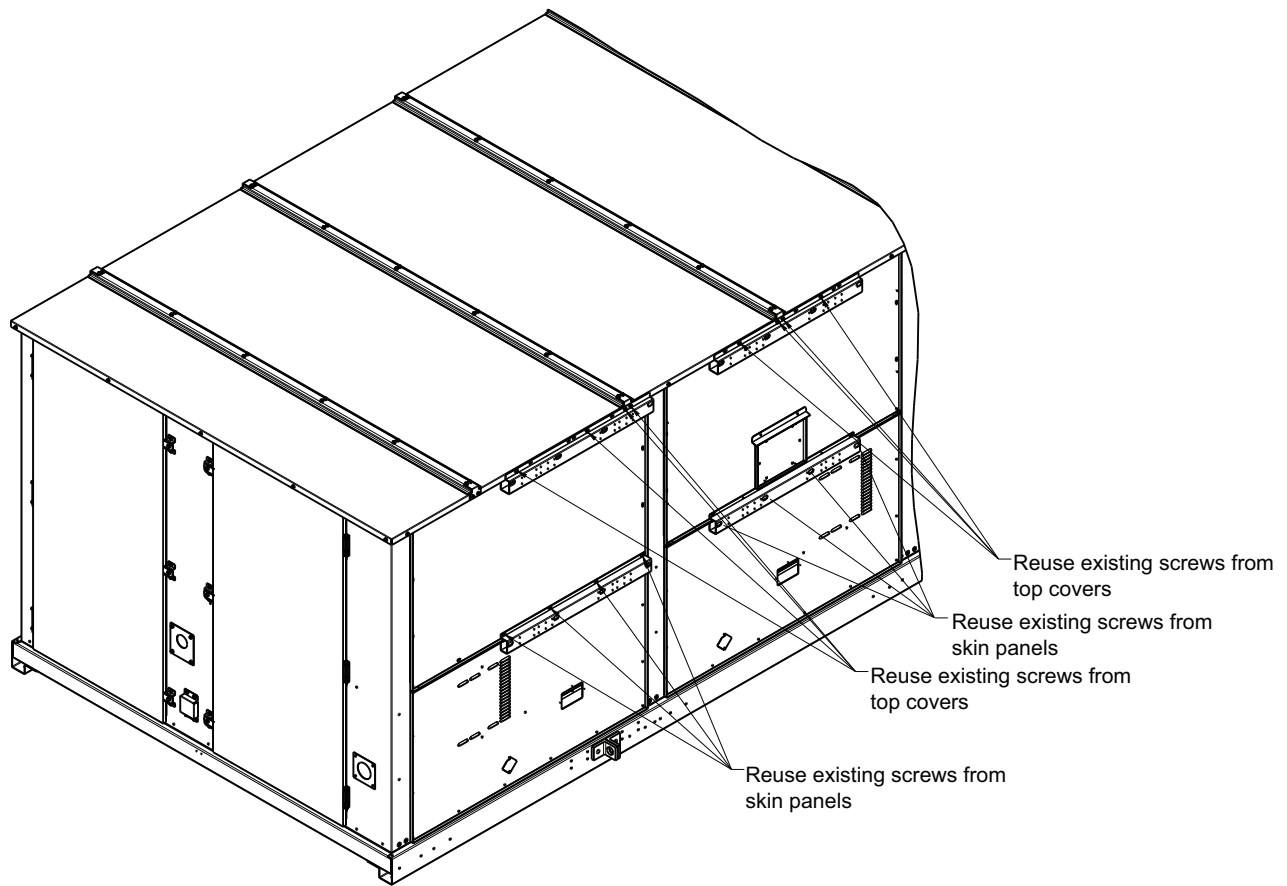

Fig. 2 — Flue Vent Extension Mounting Position
1. First remove screws from Top Cover Panel and Middle Skin Panel of the unit. See Fig. 2 and 3. Save screws for later use.
2. Install mounting brackets to the units by reusing the existing screws. Each flue stack uses 2 brackets. See Fig. 2 and 3.